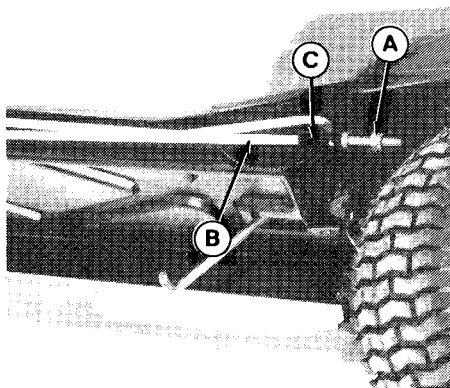

Figure 15. Brake Rod Adjustment
2. Pull forward on the brake rod (B, figure 15) to take up any slack. Set the nut (A) on the brake rod so there is 1/2 to